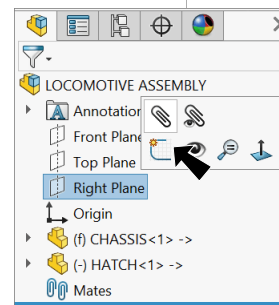

Fig. 2
Step 1. Click **Right Plane**  in the Feature Manager and **Mate**  on the context toolbar, **Fig. 2**.